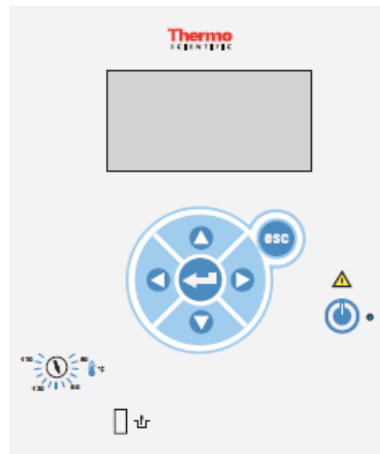

Figure 8: Digital panel of the chiller
9.2. To turn ON the chiller, press the power button , and then press  from the chiller's digital panel (Figure 8).